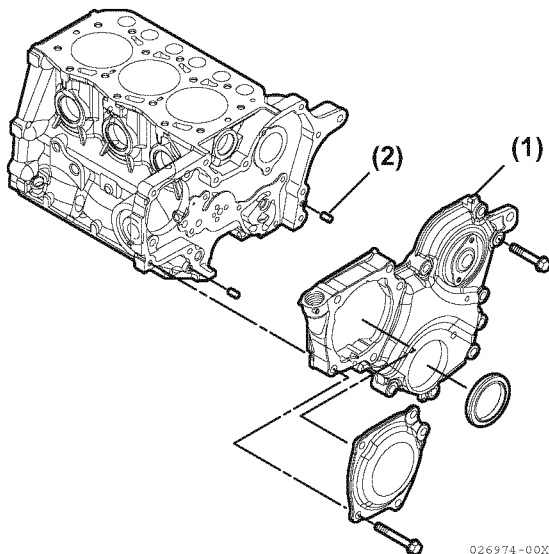

Figure 6-101
1. Apply a continuous bead of ThreeBond Liquid Gasket No. 1212, Yanmar Part No. 977770-01212 to the mounting area of the gear case cover (**Figure 6-101, (1)**). Be sure to circle the bolt holes.
2. Reinstall the dowels (**Figure 6-101, (2)**).